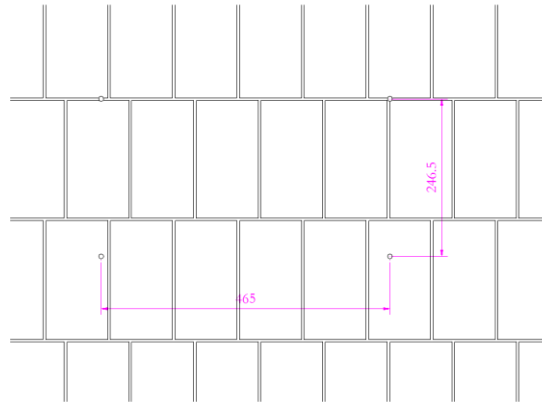

Figure 17: Hole punching diagram for Wall-mounted installation
- On the selected wall, use a percussion drill and choose a suitable drill bit [$\phi 8\text{mm}$ is recommended] to make a hole according to the size [$465 \times 246.5\text{mm}$] in Figure 17, and the depth is about 50mm;